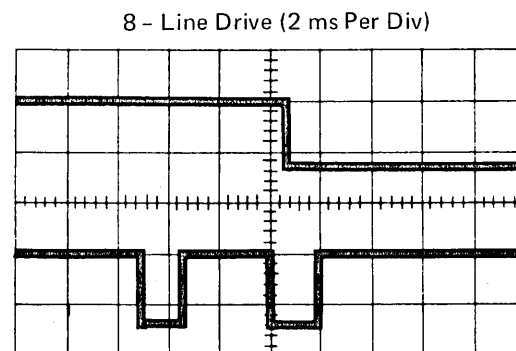

Figure 1-59. Double Space
3. Double-space after print – 8-line drive (Figure 1-59).